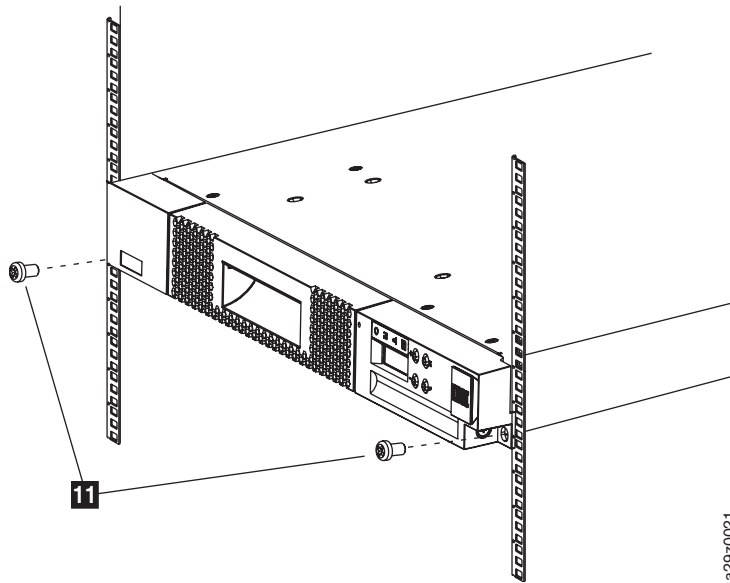

Figure 8-5. Removing screws at the front of the library
11. Remove the large black screws **11** from each front bracket securing the front of the library to the rack, and slide the library chassis out of the rack (Figure 8-5).